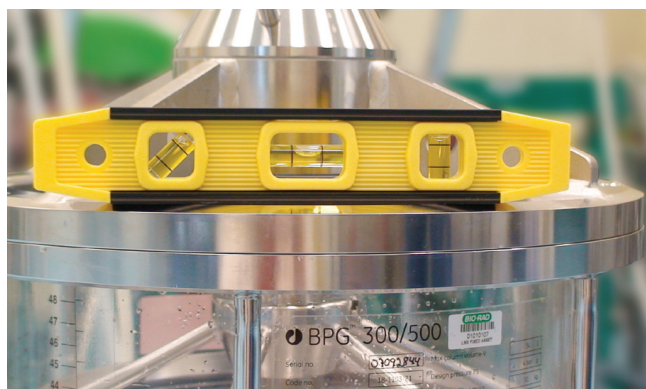

Fig. 2. Use a bubble level to check that the open column system is level.
- Make sure that the column is level by checking with a bubble level in several positions (Figure 2)